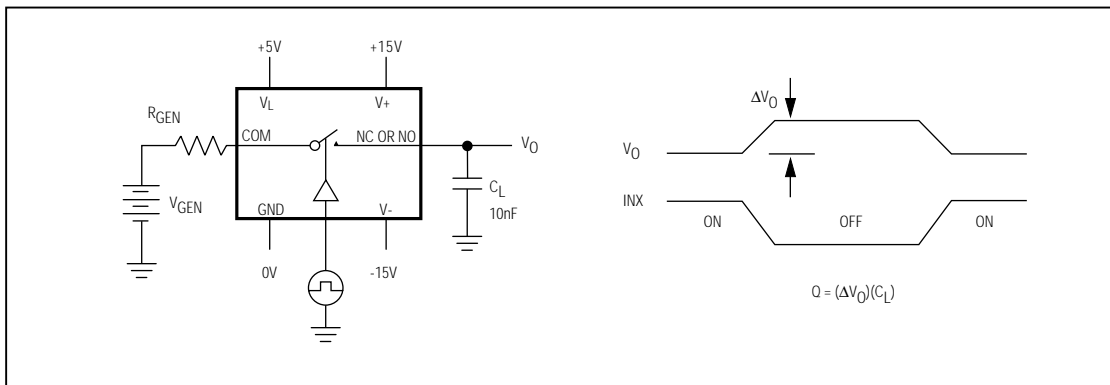

Figure 4. Charge-Injection Test Circuit
**Note 5:** See Figure 4. Off isolation =  $20 \log_{10} V_{COM}/V_{NC}$  or  $V_{NO}$ .  $V_{COM}$  = output,  $V_{NC}$  or  $V_{NO}$  = input to off switch.